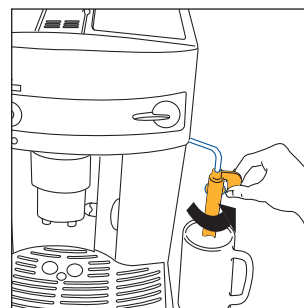
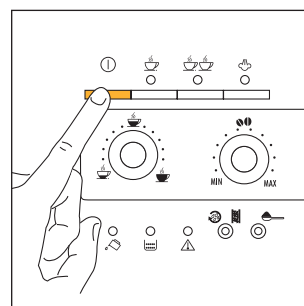

Fig.3
Fig.4
2. Move the milk frother towards the outside and place a cup underneath (Fig.3). Then turn the machine on by pressing the ① button (Fig.4).
- Turn the milk frother towards the outside of the machine (Fig. 3).
- Position a container underneath the milk frother (Fig. 3).
- Move the milk frother towards the outside (Fig. 3).